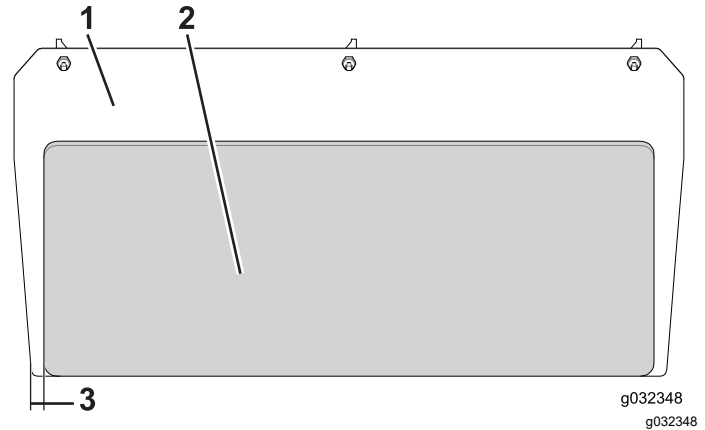

Figure 4
4. Remove the backing and apply the rear-panel shield to the engine side of the rear panel (Figure 4).
Note: Center the rear-panel shield along the width of the plate leaving 29 mm (1-1/8 inches) from each edge (Figure 4).